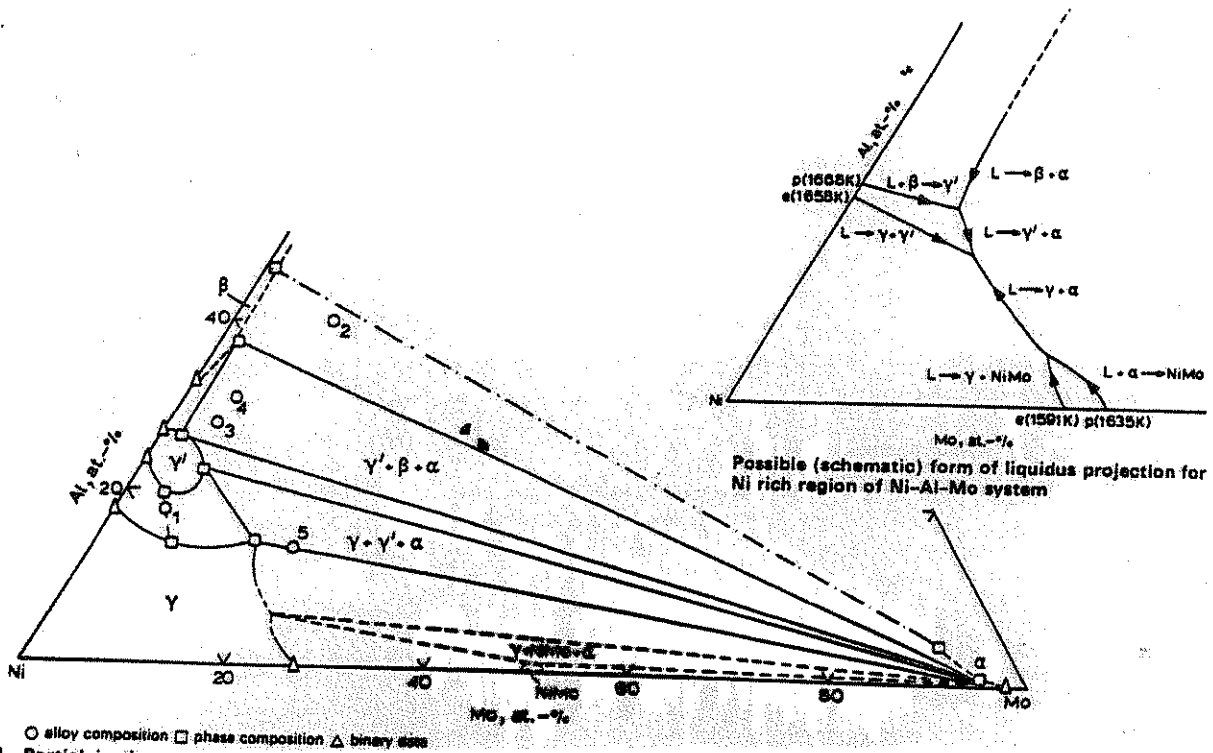

Figure 1. Isothermal section of the Al-Mo-Ni system at 1473K.
1. Figures 1 and 2 show partial isothermal sections and respective liquidus plans for two Ni-base alloy systems. As an alloy designer what alloy compositions in these two systems would you choose for investigation for possible high temperature-high strength applications? Give your reasons for each choice, which can be different for different types of application (specify which application for each composition selected), and make use of the following information: